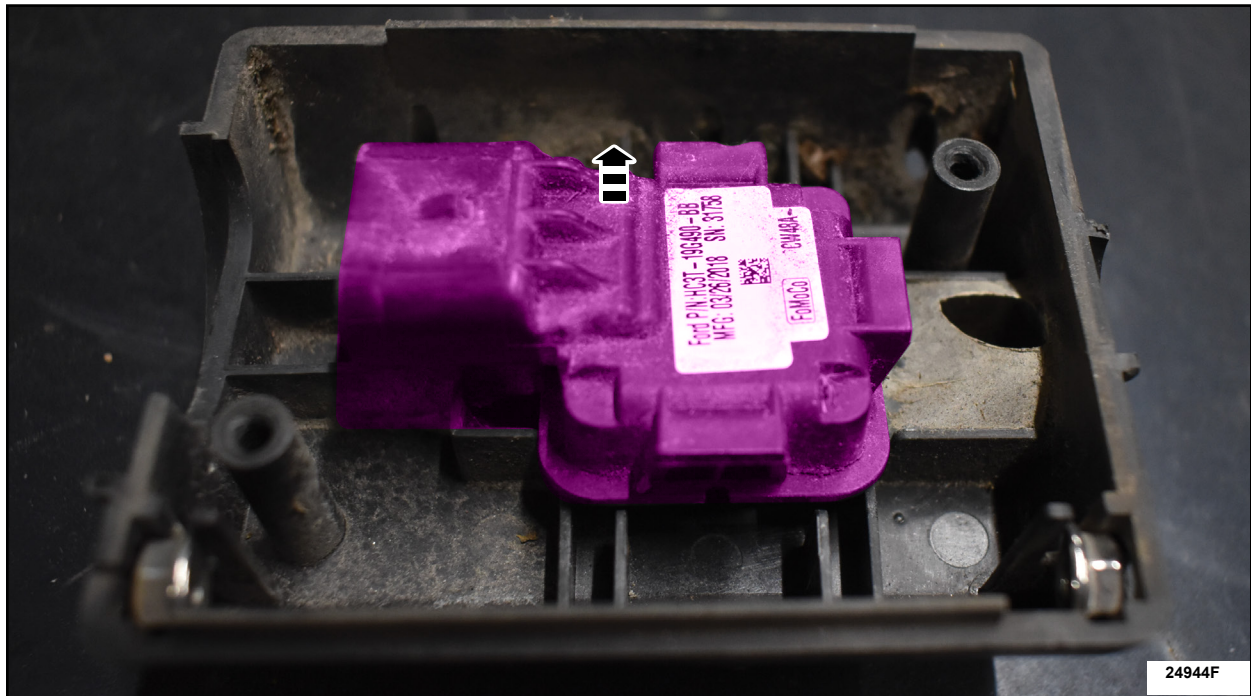

FIGURE 9
5. Remove the rear parking aid camera / video camera. See Figure 9.